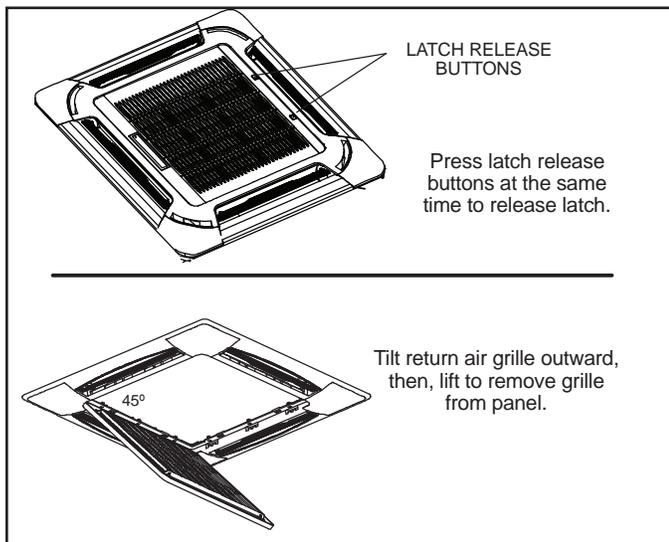

Figure 20. Remove Return Air Grille
2. Press the two grille latch release buttons at the same time to release the grille. See Figure 20. Tilt the return air grille outward at a 45° angle and lift the grille away from the panel. Carefully place the return air grille off to the side.